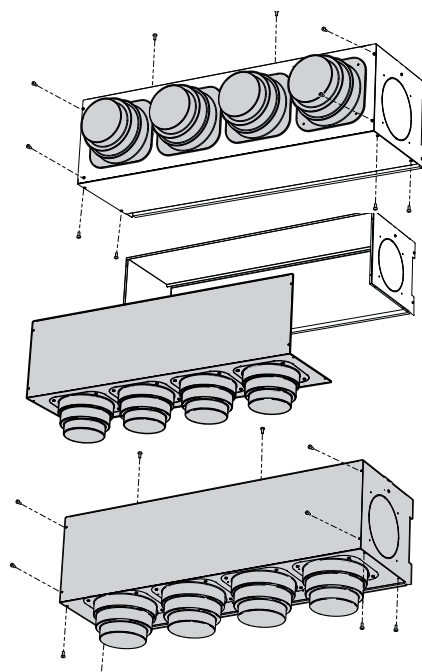

Fig.6
- Remove the ten fixing screws of the PM_V accessory (fig.6).
- Rotate the flange downwards and fasten it using the screws removed at the previous point (fig.6).